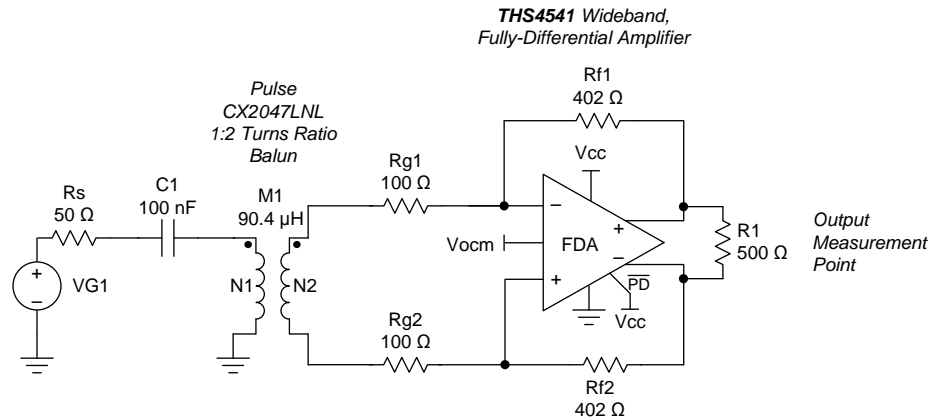
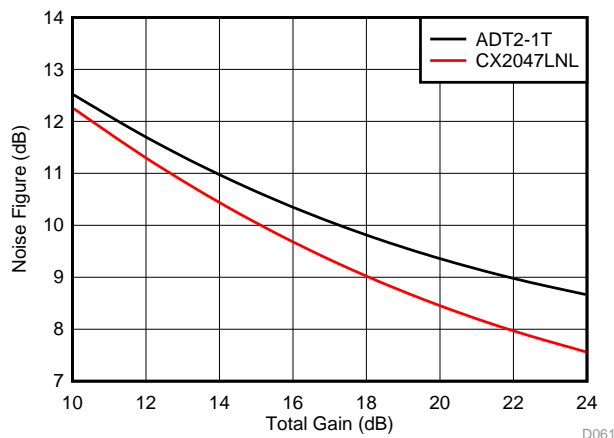

Figure 74. Input Balun Interface Delivers a Differential Input to the THS4541
Figure 75. Noise Figure versus Total Gain with the Two Input Baluns of Table 7
Transformer input coupling allows either a single-ended or differential source to be coupled into the THS4541; possibly also improving the input-referred noise figure. These designs assume a source impedance that must be matched in the balun interface. The simplest approach is shown in Figure 74, where an example 1:2 turns ratio step-up transformer is used from a 50-Ω source.
One way to use Equation 14 is to fix the input balun selection, and then sweep the FDA gain by stepping up the Rf value. The lowest-noise method uses just the two Rg elements for termination matching (no Rm element, such as in Figure 74) and sweep the Rf values up to assess the resulting input-referred noise figure. While this method can be used with all FDAs and a wide range of input baluns, relatively low-frequency input baluns are an appropriate choice here because the THS4541 holds exceptional SFDR for less than 40-MHz applications. Two representative selections, with their typical measured spans and resulting model elements, are shown in Table 7. For these two selections, the critical inputs for the noise figures are the turns ratio and the insertion loss (the 0.2 dB for the CX2014LNL becomes a $\beta = 0.977$ in the NF expression).
Using the typical input referred noise terms for the THS4541 ($e_{ni} = 2.2 \text{ nV}$ and $i_n = 1.9 \text{ pA}$) and sweeping the total gain from the input of the balun to the differential output over a 10-dB to 24-dB span, gives the input noise figure shown in Figure 75.
The 50-Ω referred noise figure estimates show a decreasing input-referred noise for either balun as the gain increases through 24 dB. The only elements changing in these sweeps are the feedback-resistor values, in order to achieve the total target gain after the step up from the input balun. The example of Figure 74 is a gain of 7.86 V/V, or a 17.9-dB gain where a 9.0-dB input noise figure is predicted from Figure 75. Another advantage for this method is that the effective noise gain (NG) is reduced by the source impedance appearing as part of the total R_g element in the design. The example of Figure 74 operates with a $NG = 1 + 402 / (100 + 100) = 3 \text{ V/V}$, giving greater than 300-MHz SSBW in the THS4541 portion of the design. Combining that with the 372 MHz in the balun itself gives greater than 200 MHz in this 18-dB gain stage; or an equivalent greater than 1.6-GHz gain bandwidth product in a low-power, high dynamic range interface.
Added features and considerations for the balun input of Figure 74 include: